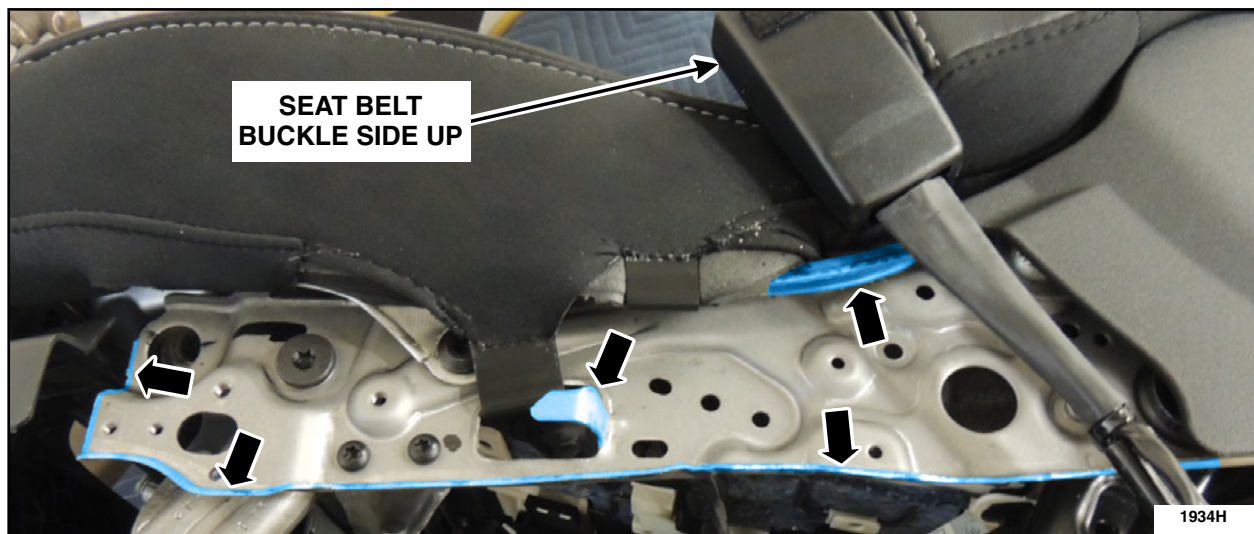

FIGURE 1
1. Using Isopropyl Alcohol and a clean shop rag, clean the areas to remove any oil or residue present. See Figure 1.